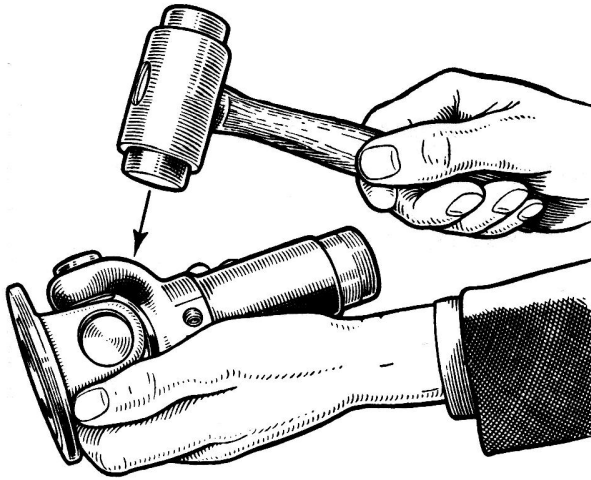
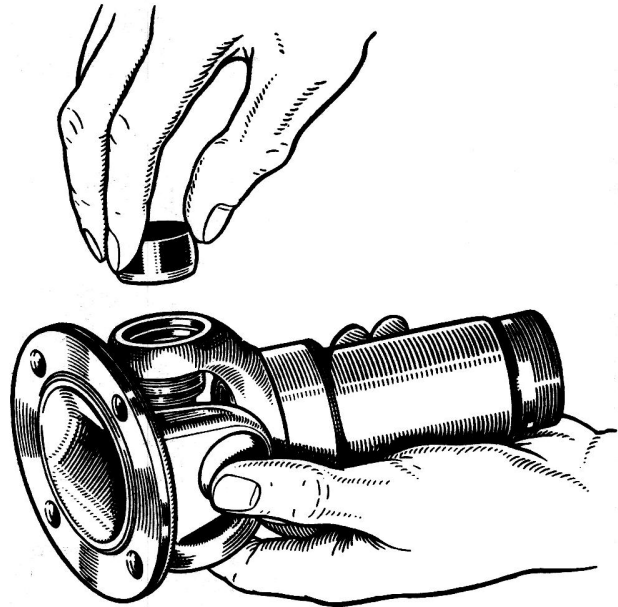
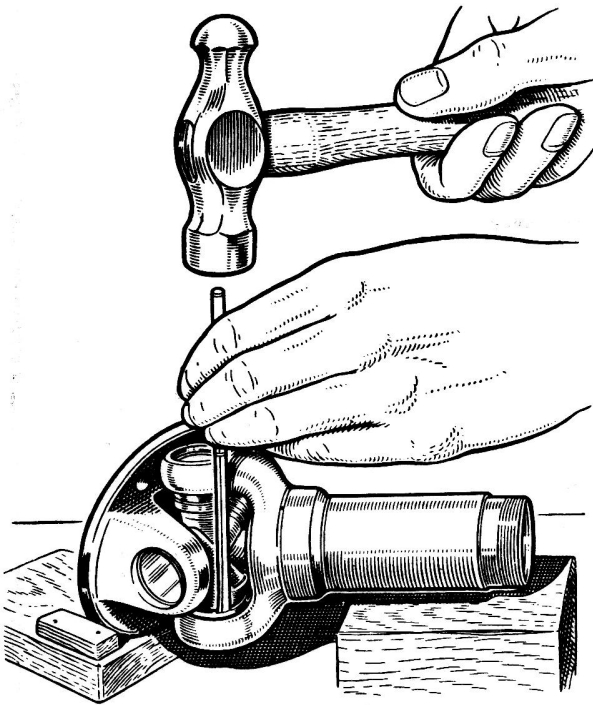

Fig.7.11. Removing a universal joint bearing
Fig.7.12. Withdraw the bearing
Fig.7.13. Tapping out a bearing
- 4 Hold the joint in the hand and with a hide faced or other type of soft hammer, tap the yoke lug as shown in Fig.7.11. This will cause the top bearing to work outwards until it can finally be removed with the fingers (Fig. 7.12). If the top bearing proves obstinate it can be tapped out from inside (Fig.7.13) with a small diameter punch or piece of bar but be careful you do not damage the bearing if this is not being replaced.